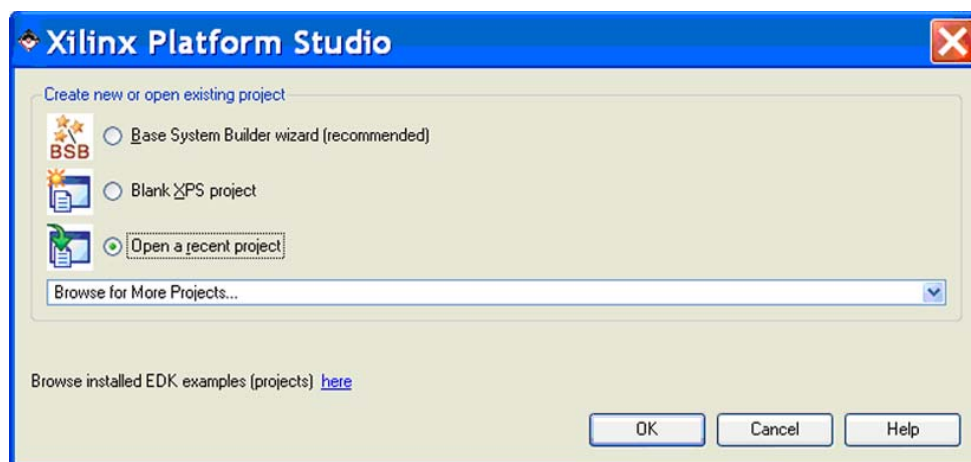

Figure 5-1: Create New or Open Existing Project
2. From the **Create new or open existing project** dialog shown in Figure 5-1, choose **Open a recent project**.